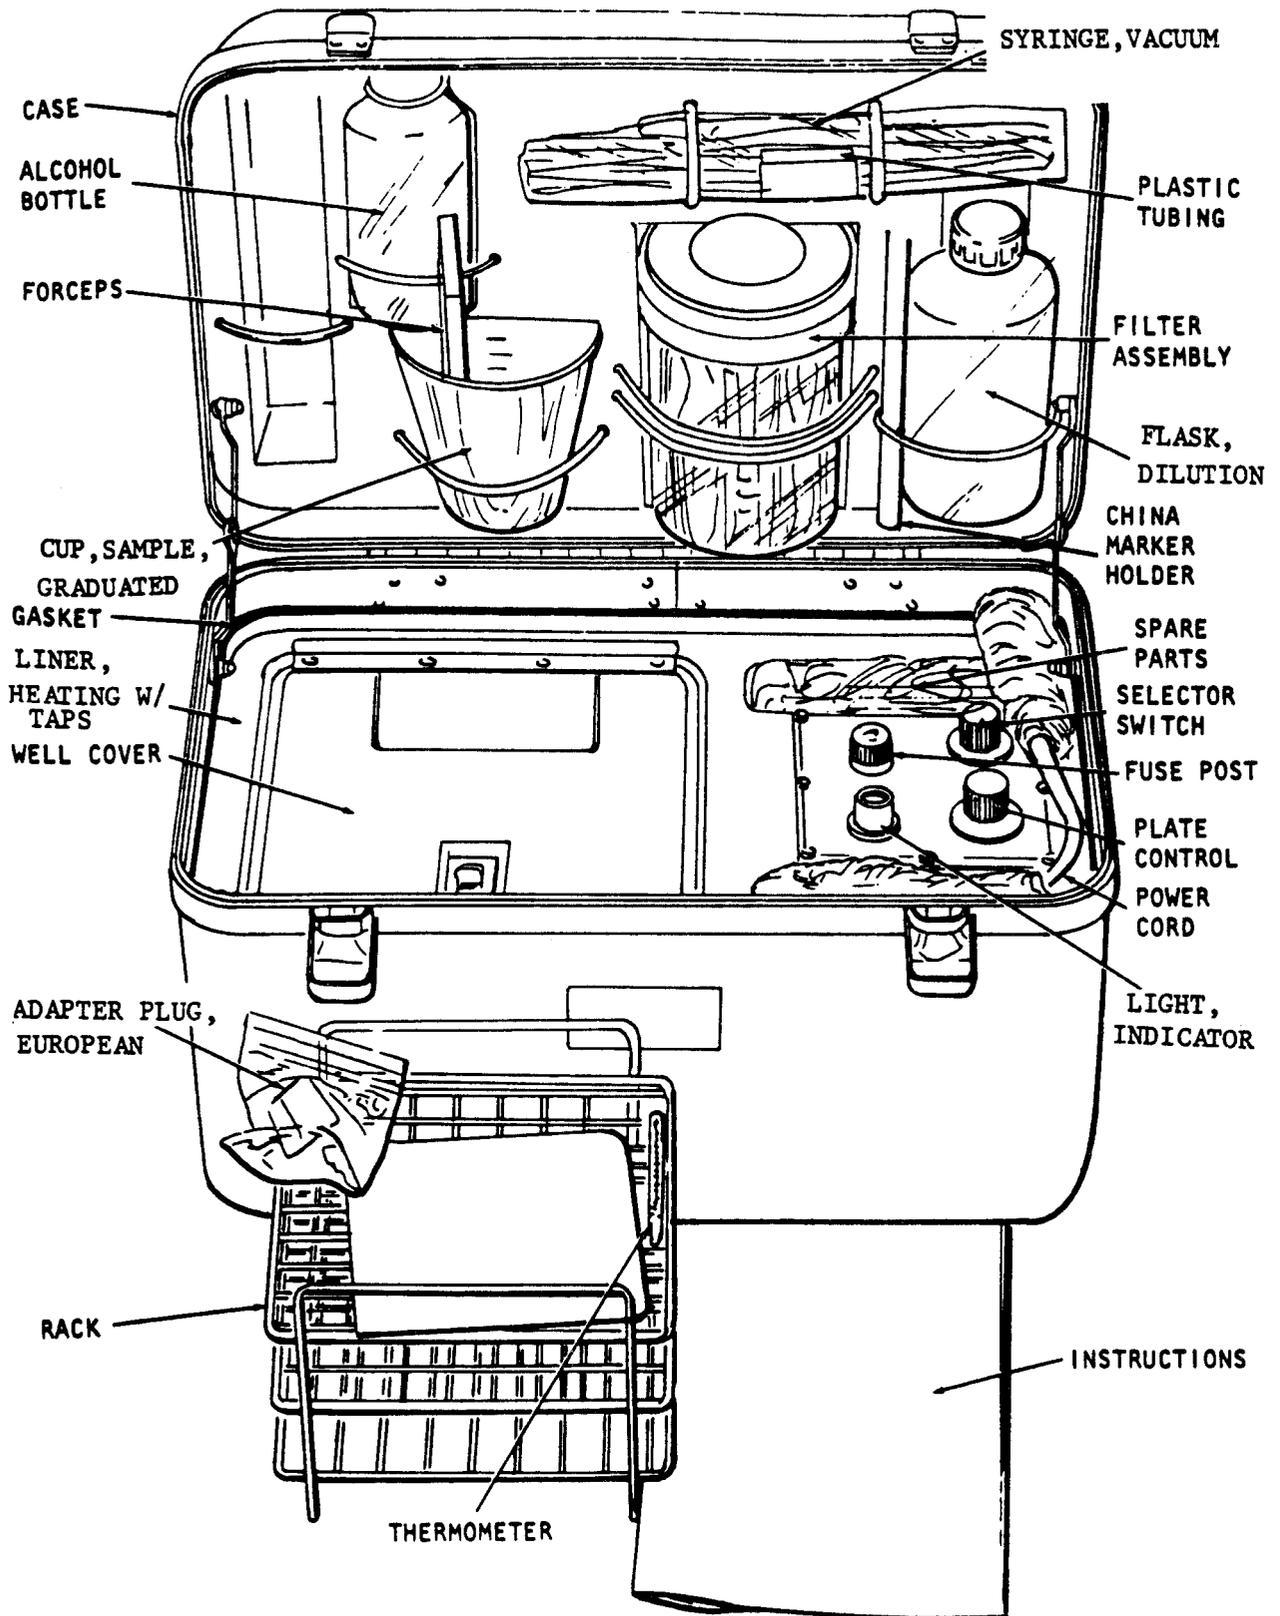

Figure 2-26. Water Testing Kit-Bacteriological
**2-25. WATER TESTING KIT-BACTERIOLOGICAL. (Fig. 2-26.)**